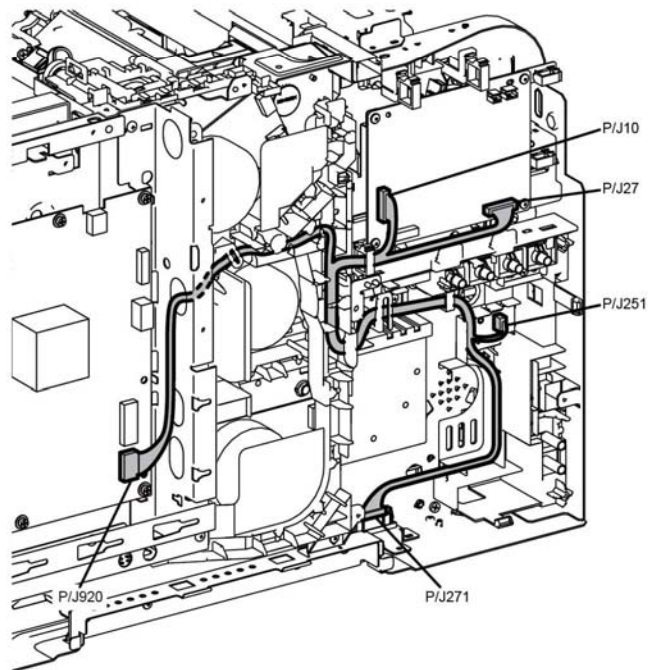

Figure 1 Main harness
1. Refer to Figure 1 to locate the main harness assembly.